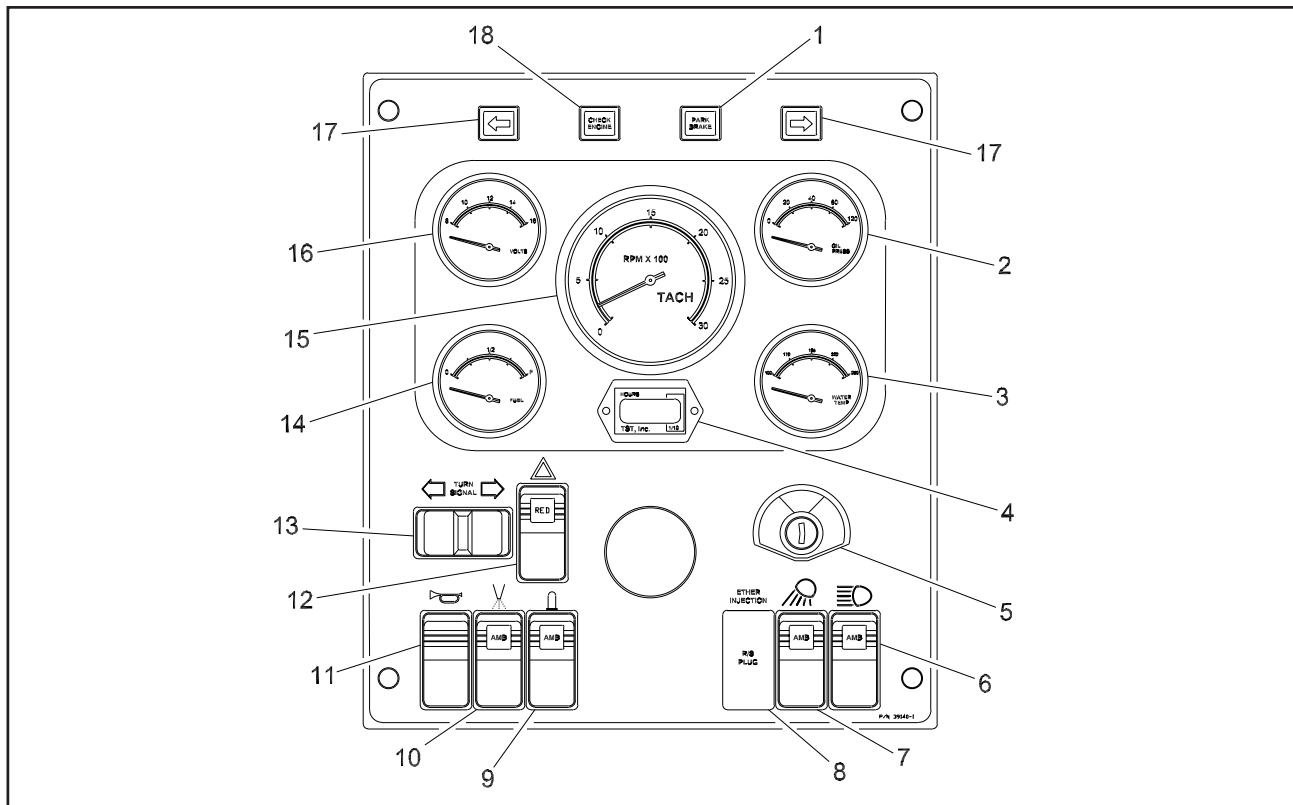

FIGURE 3-1. INSTRUMENT PANEL
Operating controls for the SweepPro Broom are shown in Figures 3-1 through 3-6 and listed in Tables 3-1 through 3-6. All controls, indicators and gauges are located in the operator's compartment.
WARNING:  Know the location and function of the controls before starting the engine. Refer to Figures 3-1 through 3-6 and Tables 3-1 through 3-6 for the position of all operating controls and system monitoring gauges.
4. Turn the Ignition Switch key (Figure 3-1, item 5) to activate the engine starter. As soon as the engine starts, release the switch.